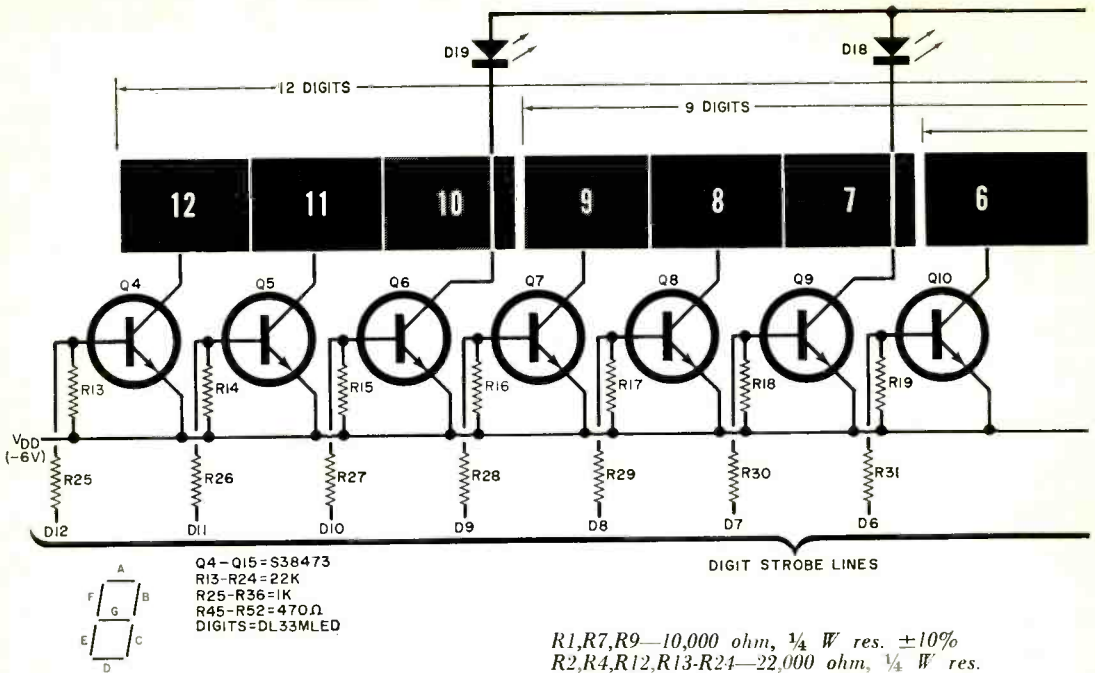

Fig. 3. Schematic and parts list for calculator. Wiring for the various display options is included. Refer to the article.
The output of the chip is positive logic; that is, the active output (1) is V_{SS} and the inactive output (0) is V_{DD} . The output is configured to drive the display in a multiplex mode and consists of 12 digit strobe lines (lines prefixed with a "D" in Fig. 3), 8 segment lines (7-segment display plus the decimal), and one sign line (1 implies a negative number to the display and 0 implies a positive number). The chip output data is a standard 7-segment format so that no external BCD-to-7-segment decoder is required. The chip automatically keeps track of where the decimal point is located and the decimal-point segment line will go active when the appropriate digit is strobed on to correctly position the decimal.
Readouts. This particular calculator uses LED-type readouts, arranged in the familiar 7-segment configuration, as shown in the readout portion of Fig. 3.
The MOS calculator chip cannot drive the LED readouts directly for two reasons. The chip digit or strobe lines do not have sufficient current capacity to cause the LED segments to glow; and the output drive signal does not have the correct polarity. The active output of the chip is zero volts while the inactive output is -6 volts. If you check the readout portion of Fig. 3, you will note transistors Q4 through Q15. These transistors supply the LED drive by providing current amplification and signal inversion. All similar segments of each readout are connected in parallel and are driven by a single segment line (A through G of Fig. 3). However, all segments within a given digit have common cathodes which are connected to the collector of the digit driver transistor for that particular digit. A basic